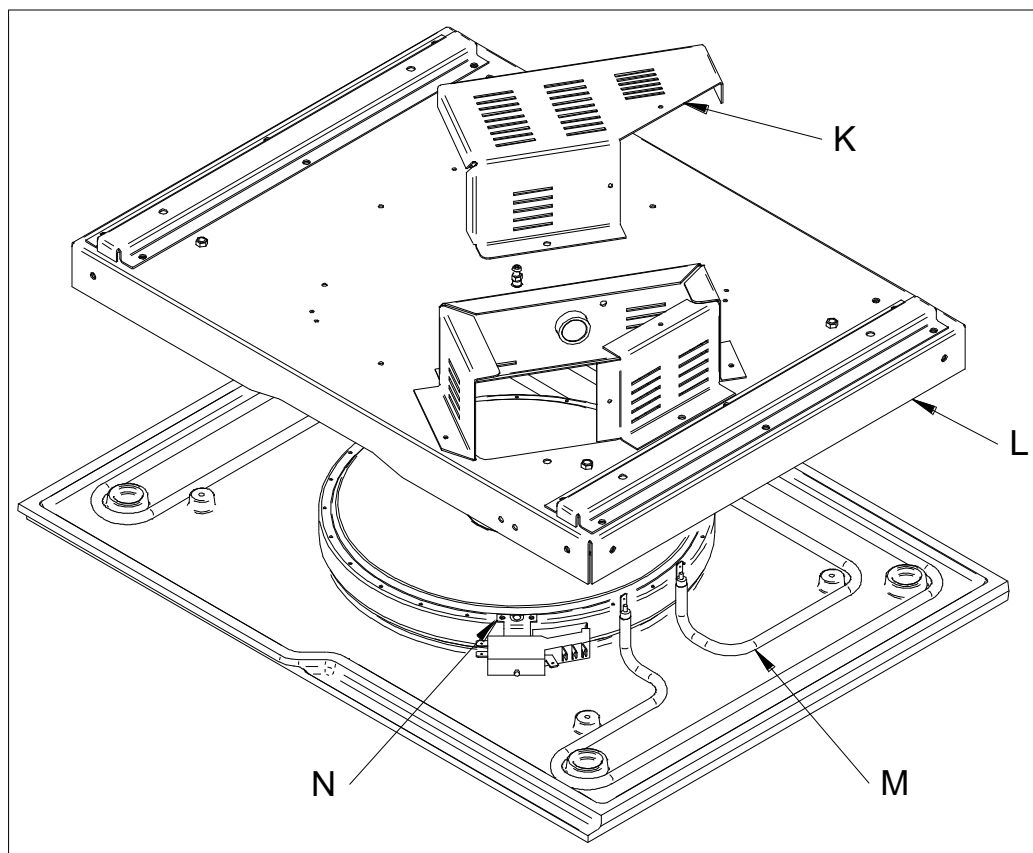

Fig 5
Remove the element lid Fig 5 (K) and disconnect the cables, noting their positions.